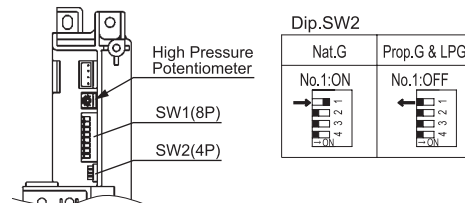

Fig. 1
4. Check gas type switches (Fig.1) are in the correct position (dip switch 1 of SW2 'ON' = NG, 'OFF' = Prop.G & ULPG)